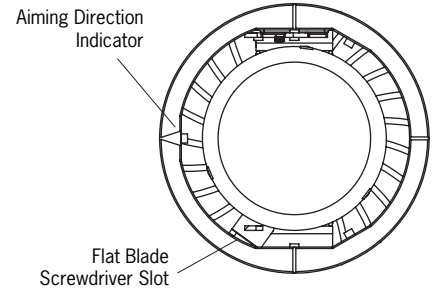

FIGURE 3
- Tilt adjustment on Universal Module can be locked into place utilizing set screw and provided allen wrench. (Figure 3).